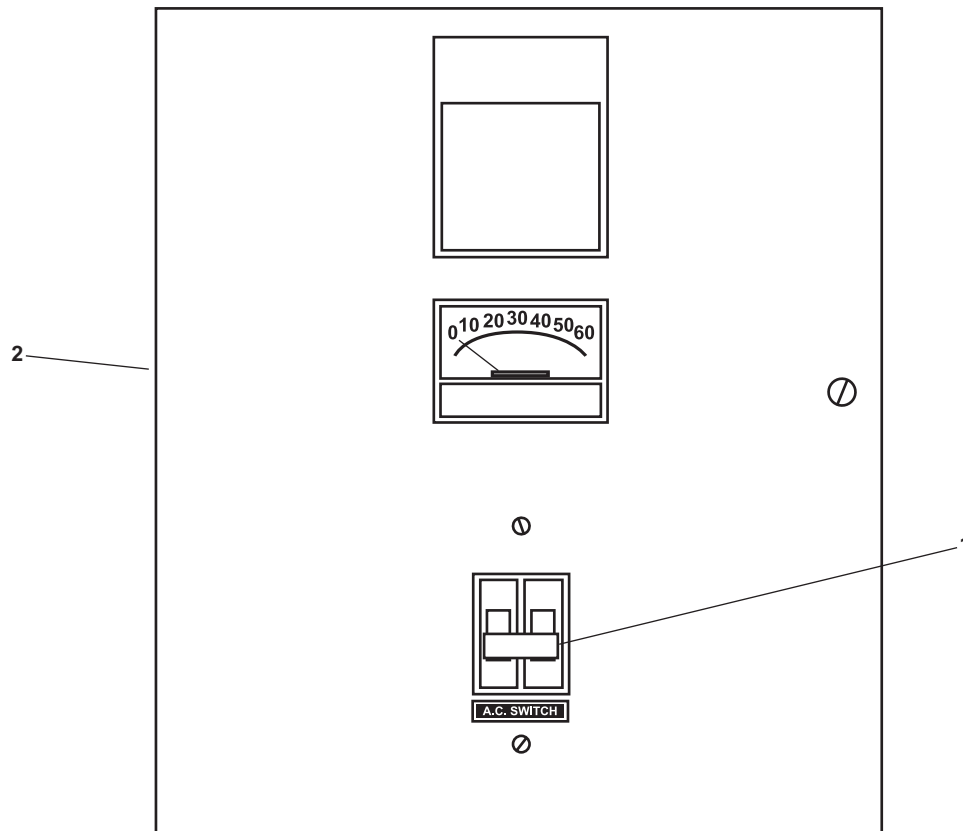

Figure 4. ROWPU Battery Charger
1. Set to OFF, lock out, and tag out (FM 55-502) the A.C. SWITCH (figure 4, item 1) at the ROWPU battery charger (figure 4, item 2).
6. Set to ON the A.C. SWITCH (figure 4, item 1) at the ROWPU battery charger (figure 4, item 2).